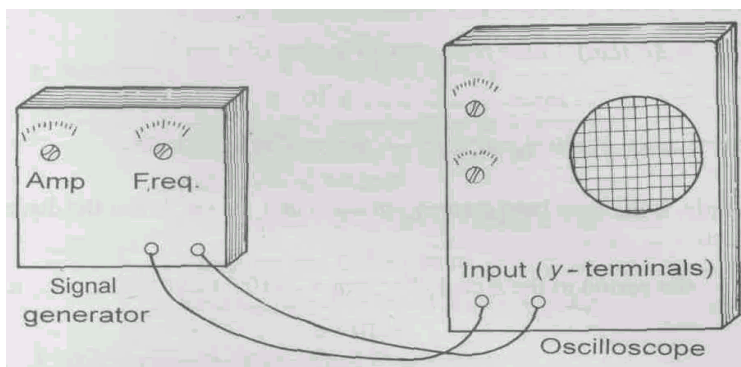

Fig. 9.3 Circuit diagram for connecting an oscilloscope and a signal generator
6. Connect the output of the signal generator to the input (y-terminals) of the oscilloscope as shown in Fig.9.3.